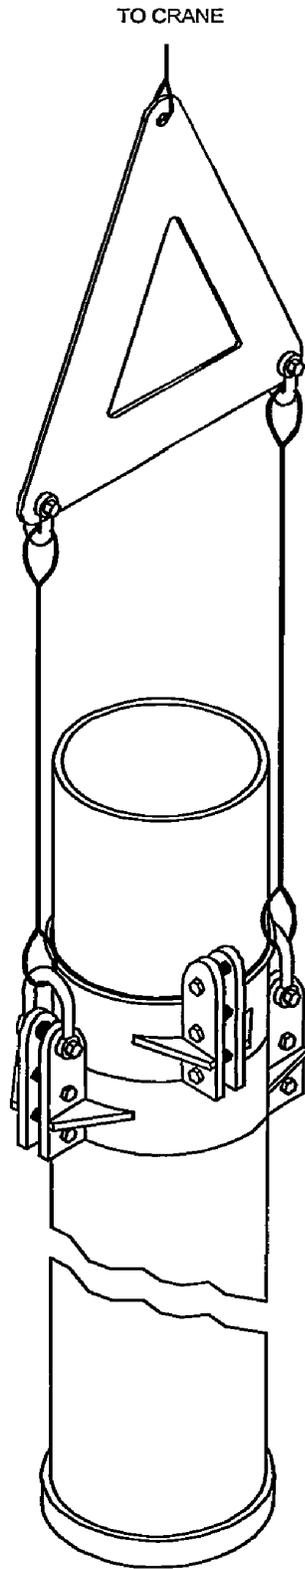

Figure 4-12 Installation of Snorkel Inner Induction Pipe Lifting Clamp
In addition to a lifting clamp, a backup clamp (Figure 4-12) is a mandatory requirement for personnel safety when lifting snorkel inner induction pipe. Ensure that the mandatory requirements of Chapter 2 have been accomplished and that all other pertinent safety precautions of Chapter 1 are in effect.
- c. Position the lifting clamp on the pipe so that the backup clamp will be at least 12 inches below the top of the snorkel inner induction pipe. See Figure 4-12.